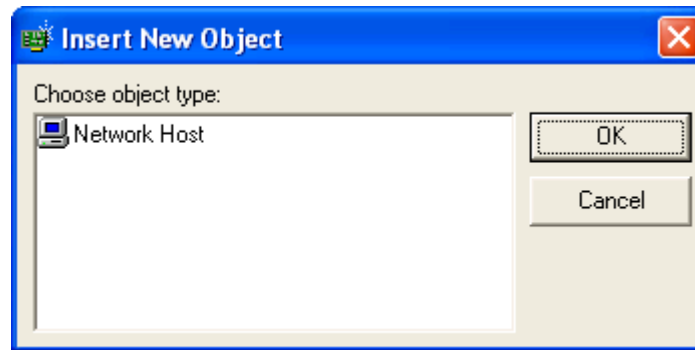

Figure 30 - Insert New Object
- The **Insert New Object** window (Figure 30) appears.